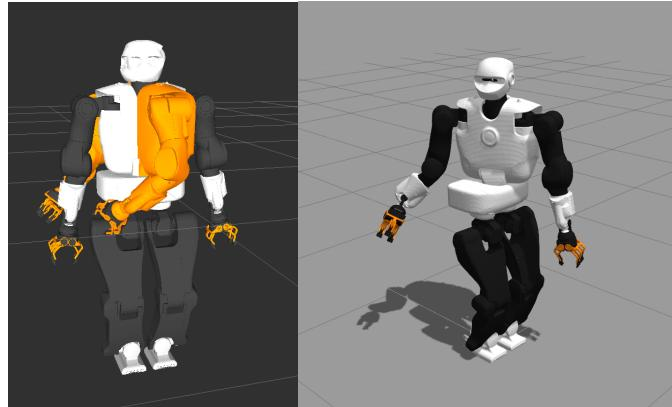

Figure 68: Sequence of plan and execute states
3. The sequence of images in Figure 68 shows the result of clicking the “Update” goal pose with random in RViz, then clicking “Plan and Execute” in the simulator. RViz will visualize the plan before executing.